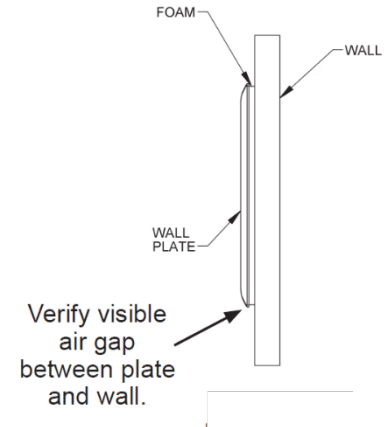

Figure 1: Side View of Mounted Plate
4. Tighten screws until the foam gasket on the back plate is compressed about 50%. Ensure the plate doesn't touch the wall (Fig 1). Verify visible air gap between plate and wall.